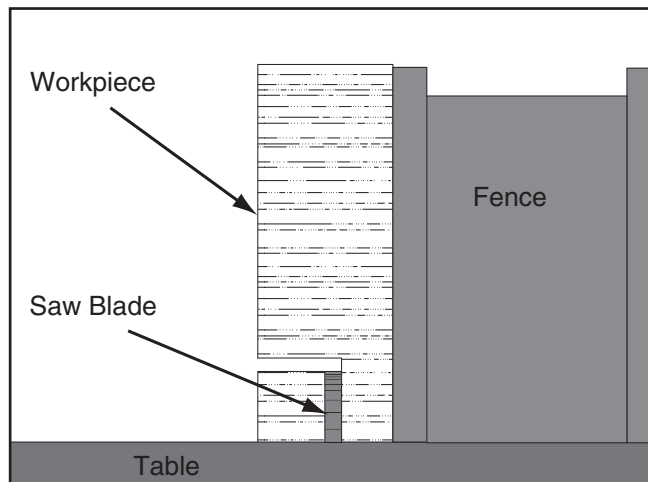

Figure 53. Second cut to create a rabbet.
9. Stand the workpiece on edge as shown in **Figure 53**.